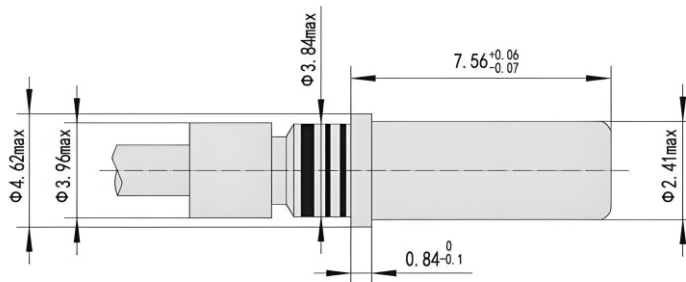

Figure 2.5
- ⑦Move the shielding mesh crimp sleeve forward, ensuring the dimension is 6.1-6.86mm. Trim the excess shielding mesh at the front end of the shielding mesh crimp sleeve. Use the crimping tool M22520/05-01 and locator M22520/05-03 to crimp the shielding mesh crimp sleeve: crimp once, and the outer diameter of the shielding mesh crimp sleeve must be less than 3.96mm.
- ⑧Figure 2.5 shows the crimped 12# coaxial pin.